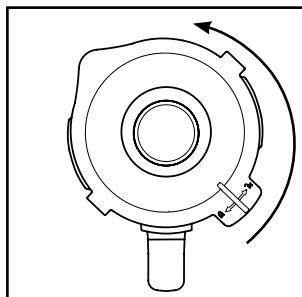
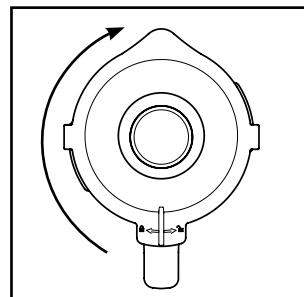

Fig. 1
Fig. 2
- 1) Remove the blender ③ from the motor block ⑥ in a vertical, upward motion.
- 2) Remove the lid ② by rotating it anticlockwise towards position  (see Fig 1) until you can pull it upwards.
- 3) Fill the blender ③.
- 4) Press the lid ② firmly down onto the blender ③. Close the lid ② by turning it clockwise to position  until it audibly engages (see Fig. 2). Ensure that the pouring spout on the blender ③ is closed. The motor cannot start until the lid ② is fitted flush.